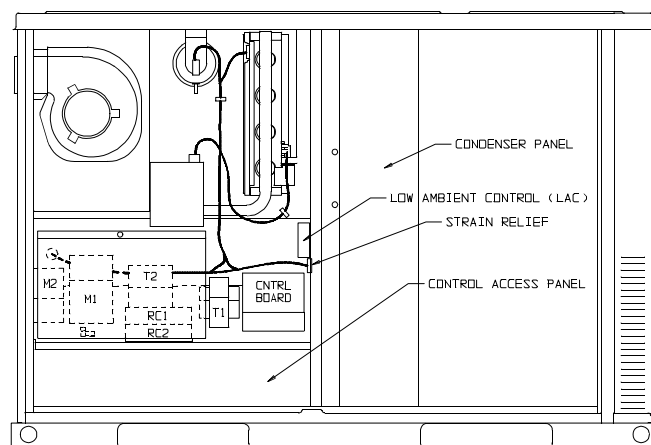

FIG. 1 - FRONT VIEW OF UNIT
3. Use the #2 phillips head screw driver and the 4 screws provided with the low ambient control and attach the control in the control compartment to the right hand side partition in the holes provided. See Figure 1.